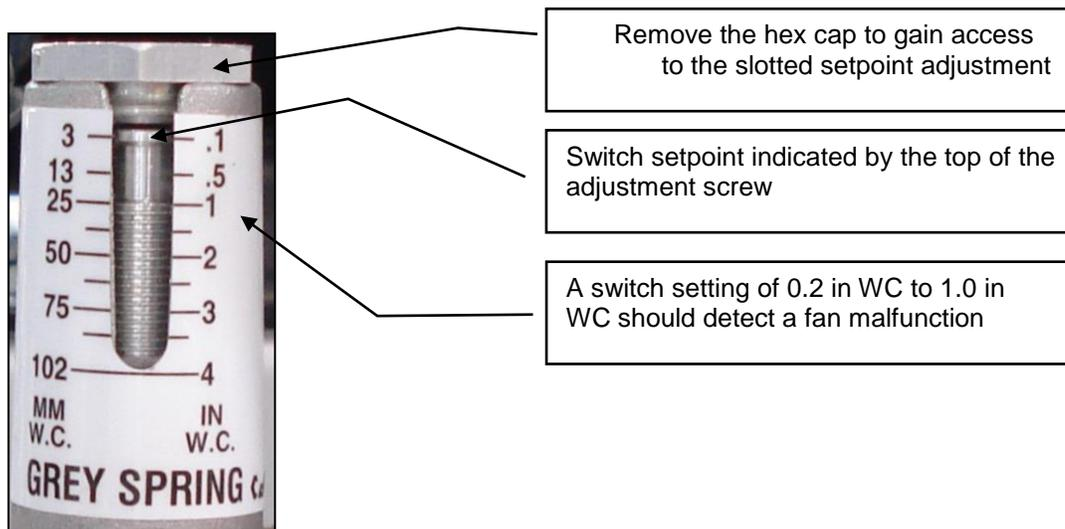

Figure 2. Adjust the airflow switch.
The position of the top of the adjustment screw indicates the switch pressure setting. View the pressure setting through the slot in the stem (Figure 2). To adjust the airflow switch:
1. Remove the aluminum hex cap on the top of the stem (Figure 2).